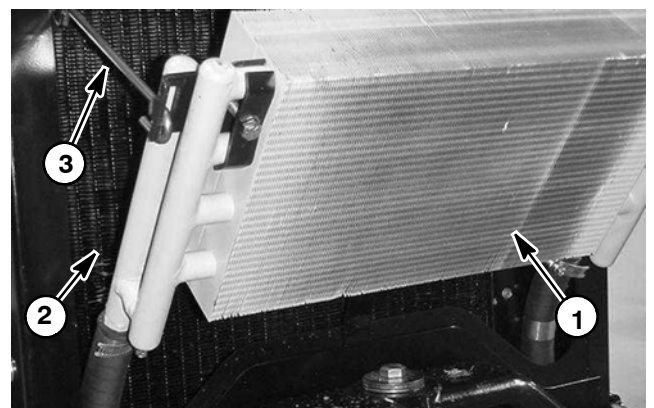

Figure 17
4. Remove lower radiator shield. Release wire form latch and allow oil cooler to pivot out (Fig. 17).